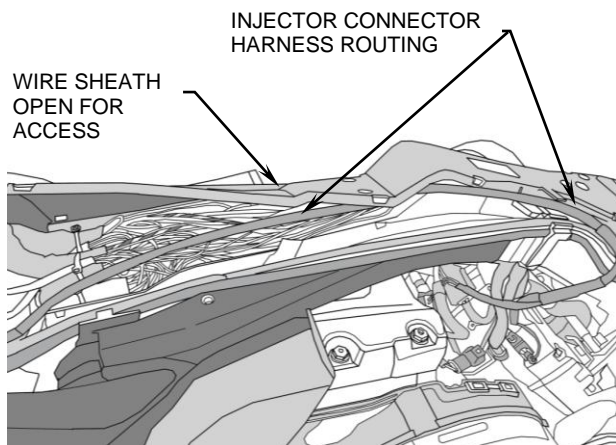

FIGURE 2
4. Place the Powrpro case and harness on right side of the motorcycle between the large wire harness and ABS control block, under the right side panel area, see Figure 2. Route the main fuel injector harness and ground wire under the right frame rail and upward to under seat area. Open the plastic wire loom sheath by removing the ziptie attaching it to the frame and place the injector harness inside of it, towards the right side, route connectors forward to area between cylinder heads, see Figure 3.